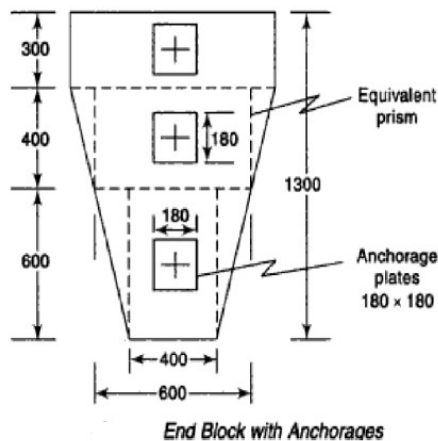

Fig. 2
- b) The solid end block of a post tensioned prestressed beam of 25m span, with three cables, each of 7-15mm strands, tensioned to 1200kN is shown in Fig. 2. The anchorage plates are square with a side length with a side of 180mm. Design the end block for bursting forces and sketch the details of reinforcement according to the provisions of the IS 1343-2012.